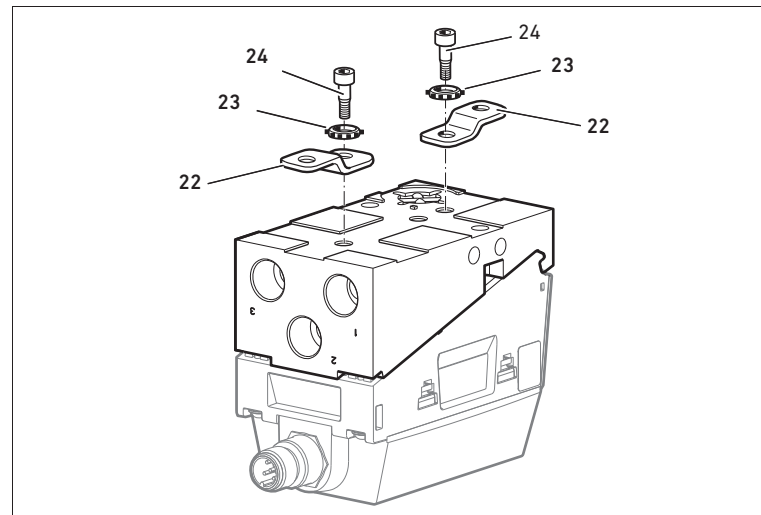

Fig. 7: Mounting kit for mounting plate assembly
- 2 mounting panels (22)
- 2 toothed lock washers (23)
- 2 cylinder head screws (WS 4) (24), tightening torque: 6 Nm
1. Assemble the mounting kit for the mounting plate as shown in Fig. 7. The mounting panels (22) catch in the recesses and can thus be aligned.